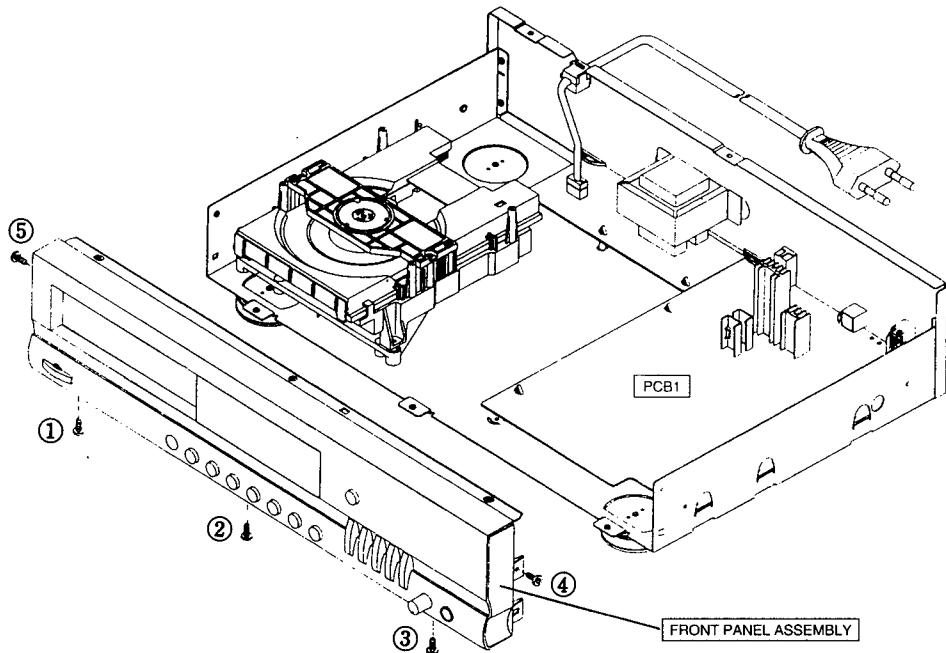

Fig. 4
② FRONT PANEL ASSEMBLY REMOVAL
- 1) Remove the cover top. (Refer to step ①)
- 2) Remove screws ① to ⑤ in Fig. 4.